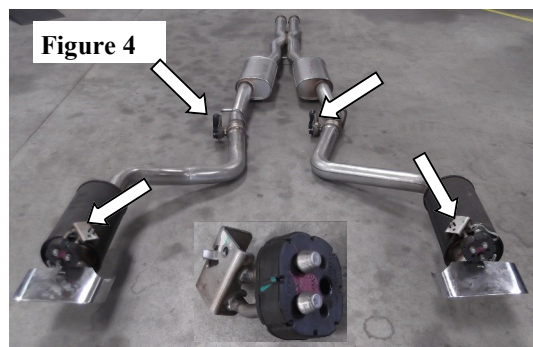

Figure 4
5. Remove left and right actuators from the factory exhaust and transfer to your new Borla exhaust system using provided hardware. Remove left and right exhaust tips from the factory exhaust and install both tips to your new Borla exhaust system using the factory hardware. (See Fig. 4)